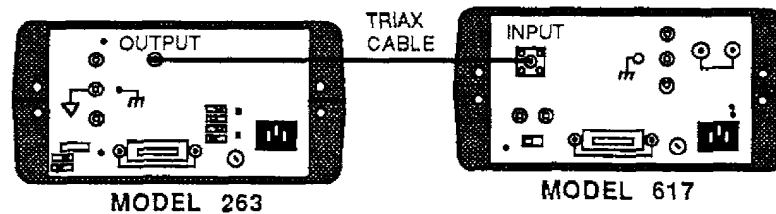

Figure 6-2. AMPS Zero Offset Checks
3. Connect the Model 263 to the Model 617 as shown in Figure 6-2.
1. Connect the Model 263 to the Model 617 as shown in Figure 6-2.